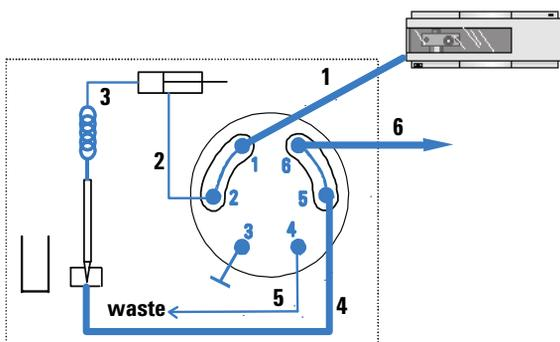

Figure 3 Plumbing diagram (main pass)
- Connect capillary #1 (G1375-87322) (see Figure 3) between flow sensor outlet and switching valve port 1.
Table 2 Capillaries and Fittings (for item numbers: see Figure 3)